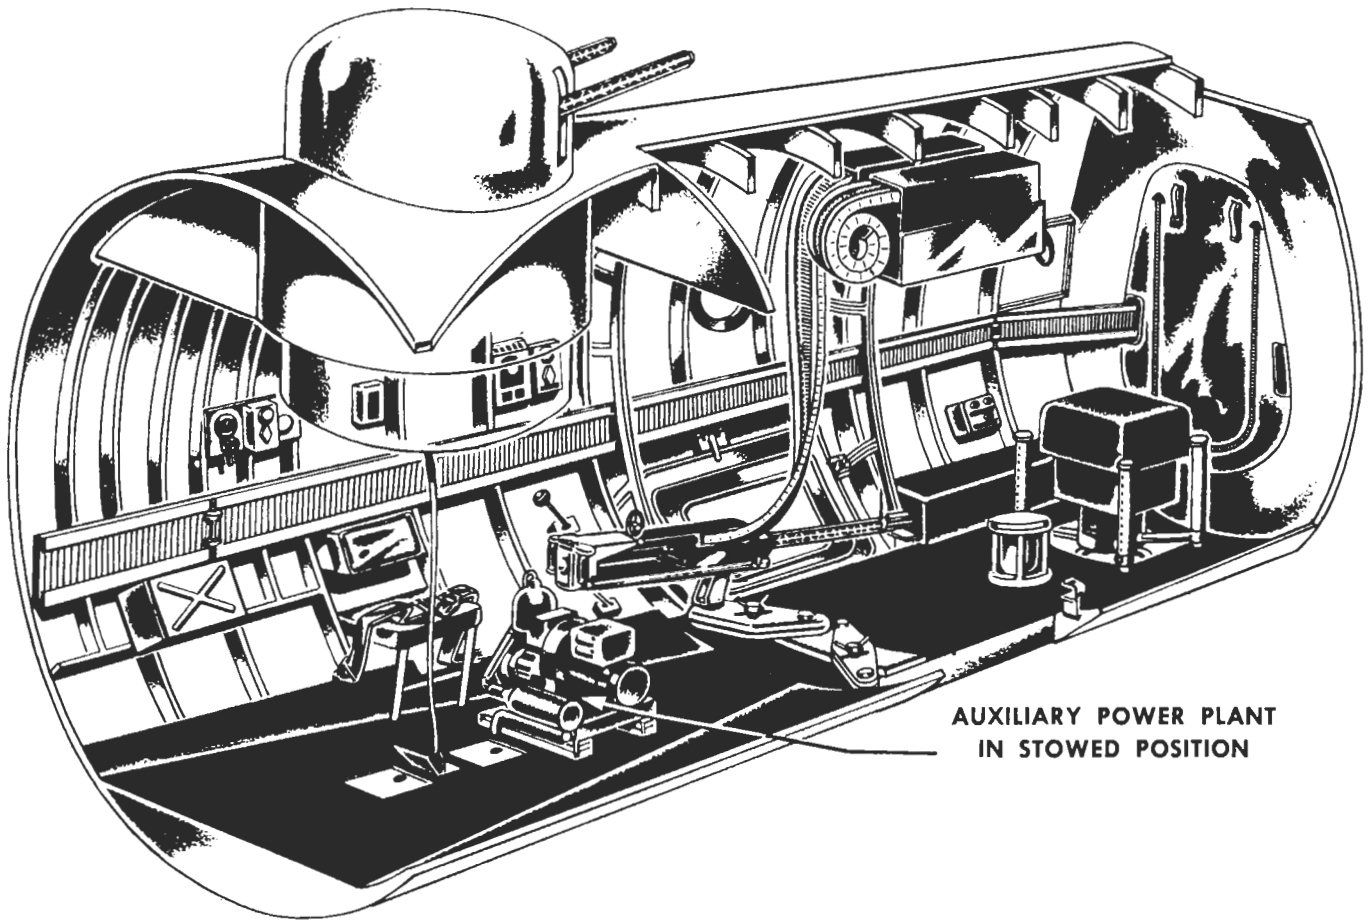

Figure 77 — Waist Gun and Camera Compartment
4. WAIST GUN AND CAMERA COMPARTMENT. (See figure 77.)